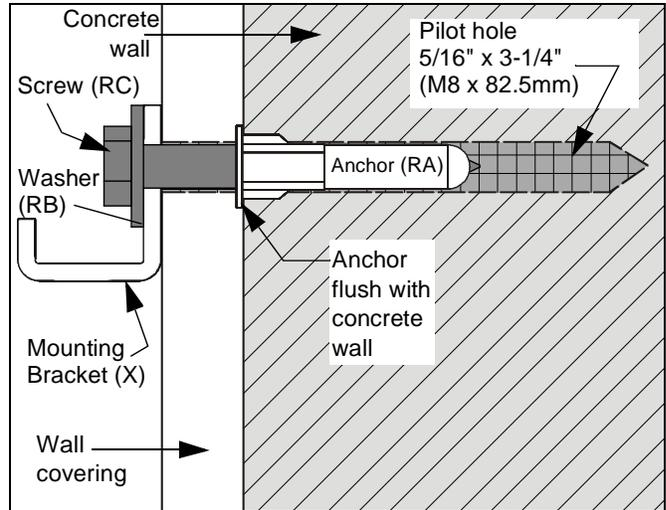
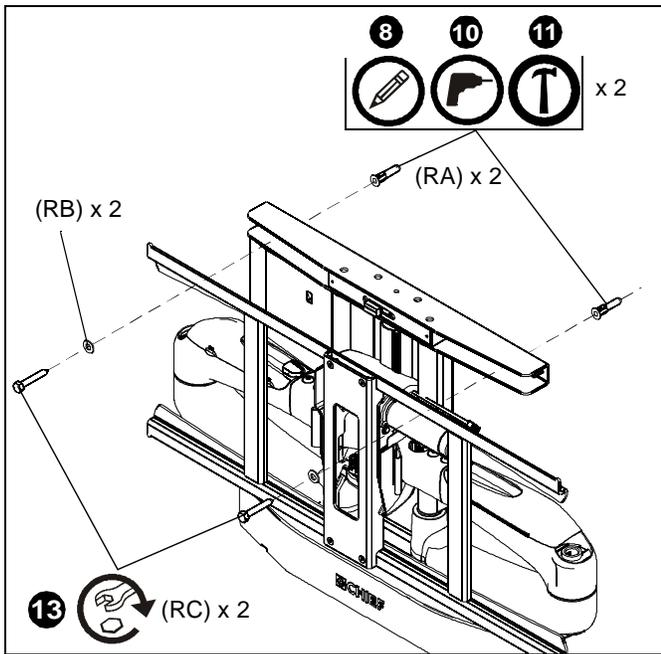

Figure 11
Figure 13
IMPORTANT ! : The anchors must be installed through any wall covering until flush with the concrete wall. (See Figure 11)
8. Mark the pilot holes through PXR upper bracket. (See Figure 13)
10. Drill two 5/16" x 3-1/4" (M8 x 82.5mm) pilot holes at locations marked in Step 8. (See Figure 13)
11. Install two anchors (RA) into pilot holes. Tap with hammer until flush with concrete surface. (See Figure 11) and (See Figure 13)
13. Fasten PXR to wall using two 5/16 x 2-1/2" lag screws (RC) and two 5/16" flat washers (RB). (See Figure 13)